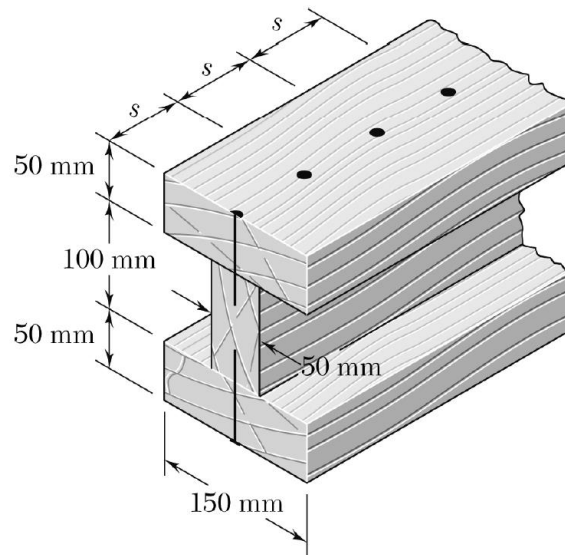

Figure Q3b
- (b) As shown in Figure Q3b, three rectangular boards (each has a thickness of 50 mm) are joined together using nails to form a beam which is subjected to a vertical shear. Given the allowable shearing force in each nail is 600 N and the spacing ' $s$ ' between the nails is 75 mm, determine the allowable shear.